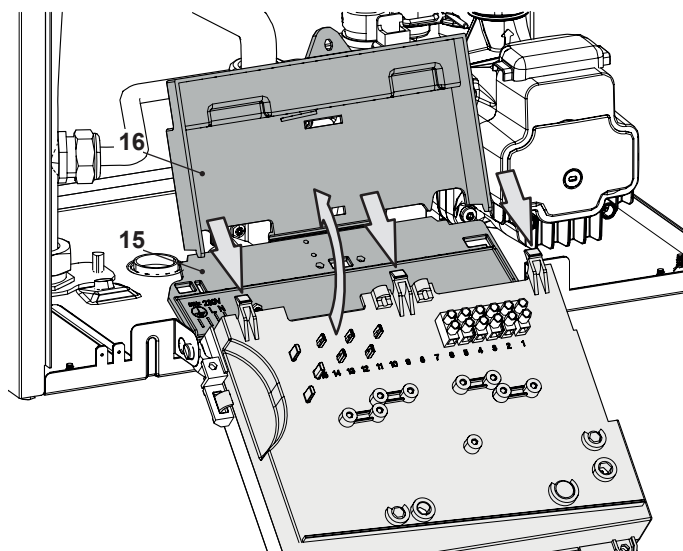

Figure 2.8
- 6 Free the hooks indicated and rotate the cover "16" and the lids "15" (Figure 2.8).